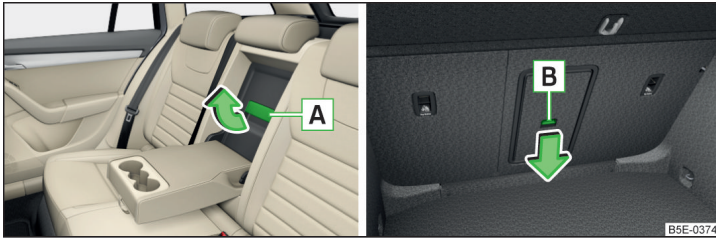

Fig. 78 Lid handle / release button
- Pull the handle **A** » Fig. 78 in the direction of the arrow and fold the cover downwards.
- Push the unlock button **B** » Fig. 78 in the direction of the arrow and fold the cover including the armrest forwards.
Ensure that the armrest is always locked into place after closing. This is apparent as the red field above the unlocking button **B** » Fig. 78 is not visible from the boot.